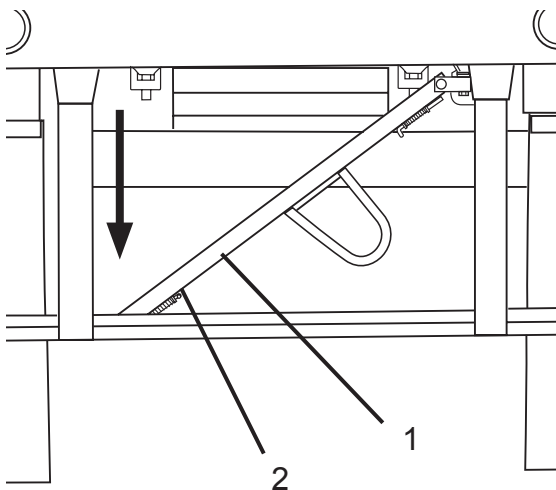

Figure 20
4. Standing behind the tailgate, remove the prop from the pocket and swing the prop (Figure 20, Item 1) away from chassis frame to the stored position and install retaining pin (Figure 20, Item 2).